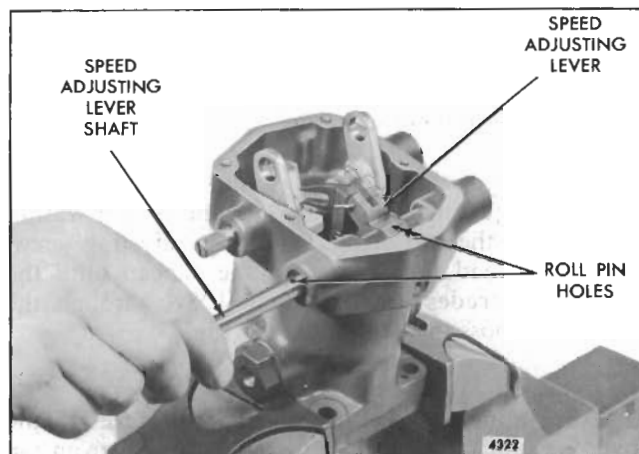

Fig. 17 - Installing Speed Adjusting Lever Shaft in Governor Housing and Adjusting Lever
- b. Insert the long end of the speed adjusting lever-to-floating lever wire pin through the pin hole in the speed adjusting lever and floating lever (Fig. 17).
inlet plug side, with the roll pin hole in the shaft and lever in alignment as shown in Fig. 17.